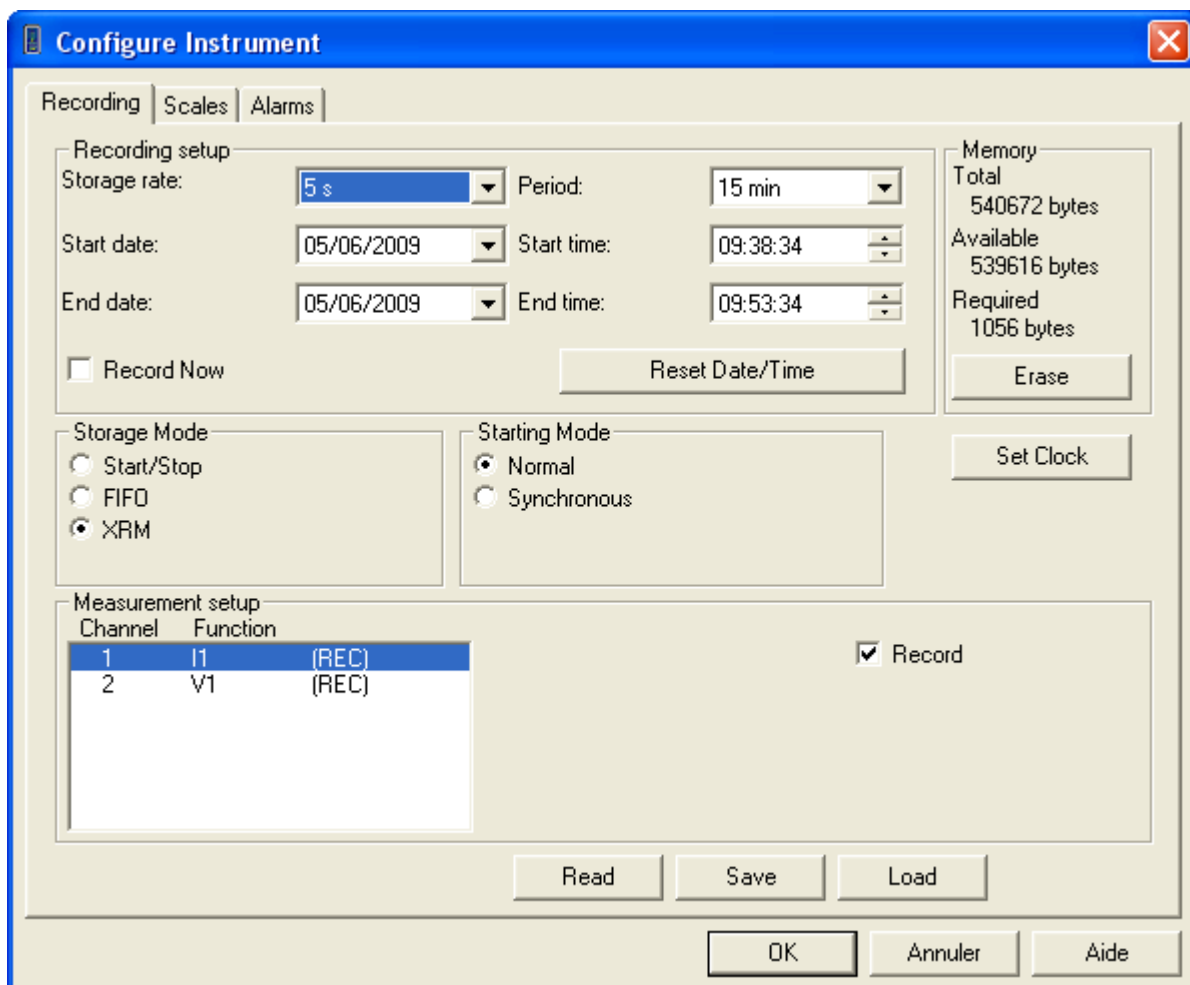

Figure 2-3
2. Then select the Configure line from the Instrument. A configuration dialogue window like the one shown below (figure 2-3) then open.
Figure 2-3 shows the first page (Recording):